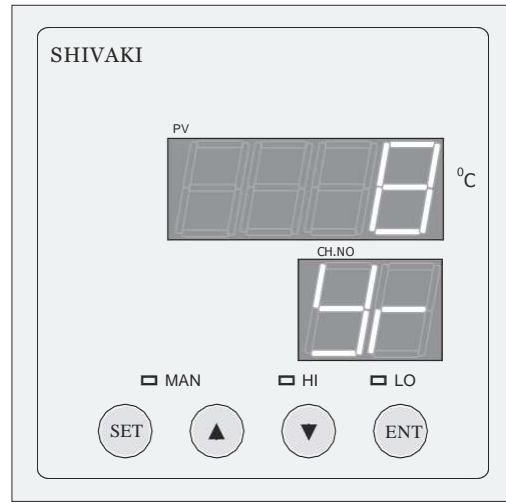

Fig. 1.6.5
Then the top display (PV) shows the preset YEAR. The bottom display shows the parameter “Yr”. Use the  $\Delta$  &  $\nabla$  keys to set the desired digit value (YEAR). Press ENT key. Refer Fig. 1.6.5